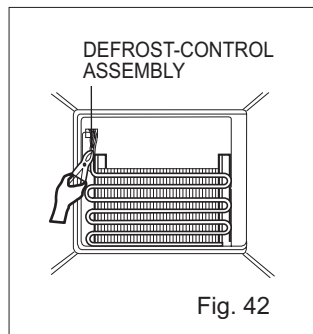

Fig. 42
2. Separate the connector of the Defrost Control assembly and replace the Defrost Control assembly after cutting the Tie Wrap. (Figure 42)